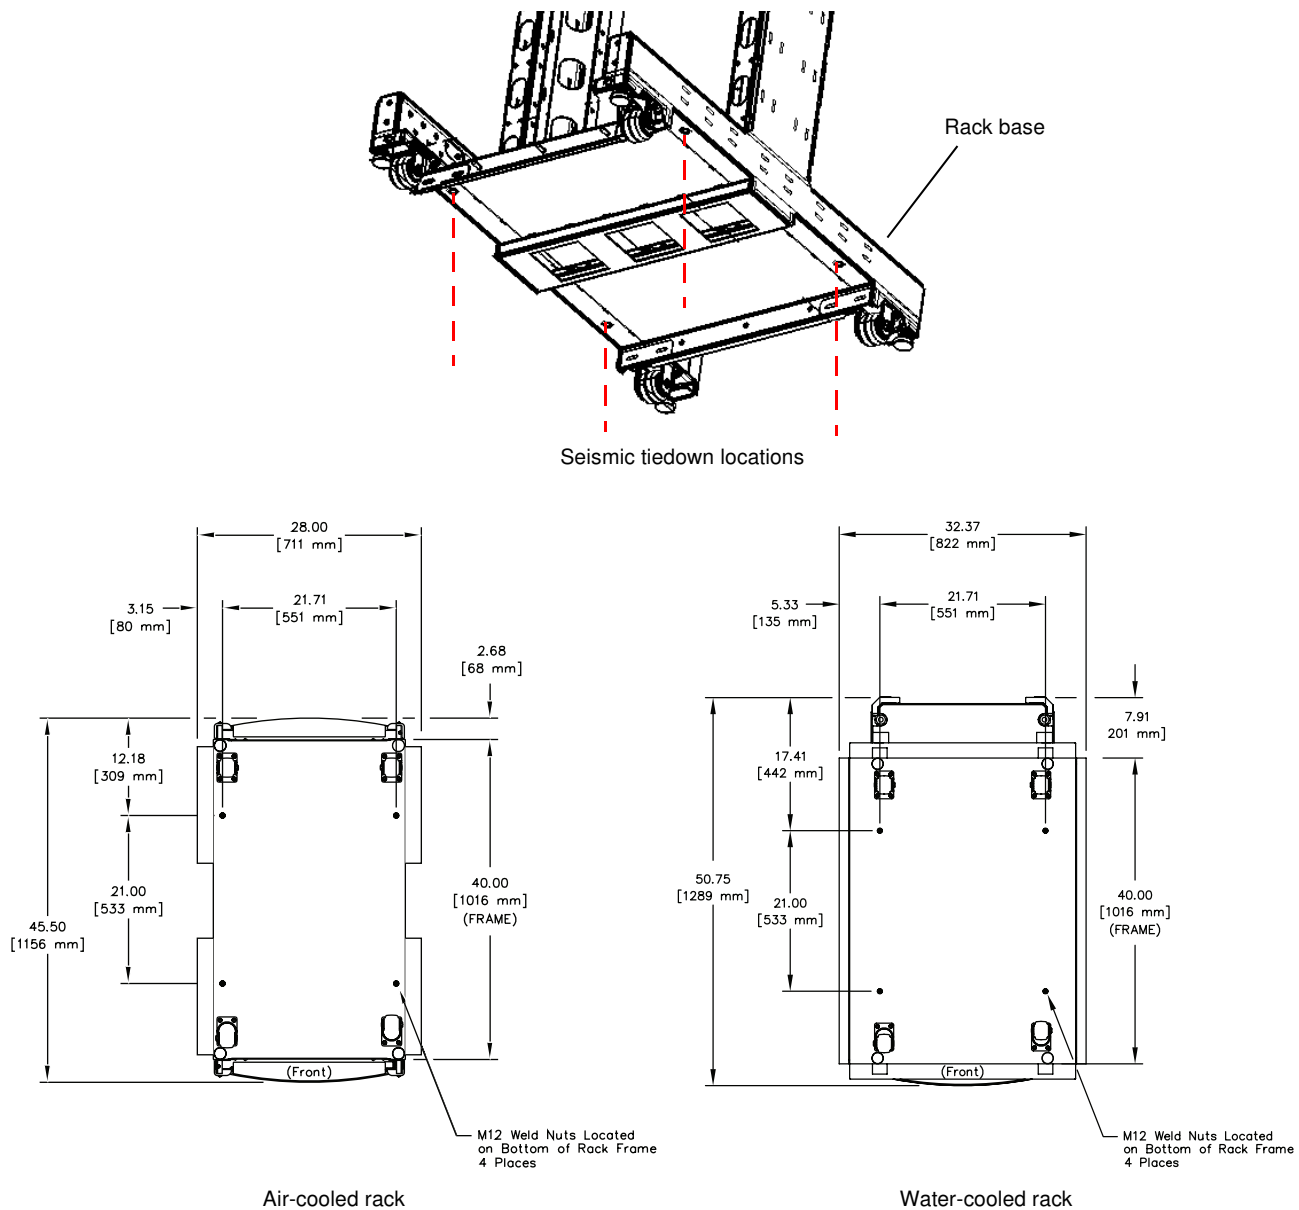

Figure 4-6 Seismic Tiedown Locations
- In areas that are prone to earthquakes, secure each SGI UV 2000 system to the computer room subfloor. Four M12 threaded weld nuts are located on the underside of each rack frame for attachment to customer-supplied hold-down devices (refer to Figure 4-6).
In areas that are prone to earthquakes, you should secure each SGI UV 2000 system to the computer room subfloor. Four M12 threaded weld nuts are located on the underside of each cabinet frame for attachment to customer-supplied hold-down devices. The attachment points are shown in Figure 4-6.